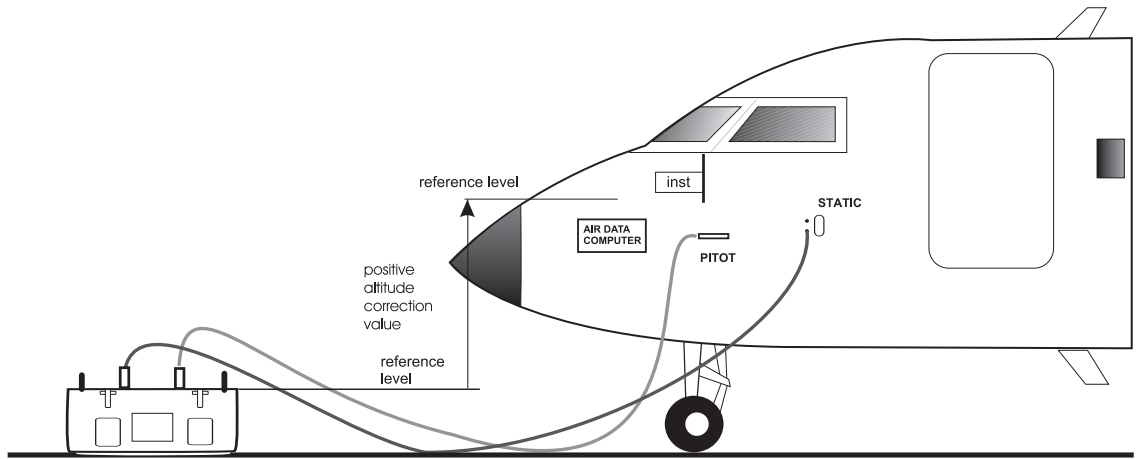

FIGURE 2-2 ADTS 505 ALTITUDE CORRECTION ON-AIRCRAFT
- o It is important that the position of the ADTS 505 in relation to the aircraft altitude sensors is known. An altitude correction must be made to allow for the difference in height between the reference level and the aircraft's altitude sensors (Figures 2-2 and 2-3). The Reference section contains details of altitude correction.